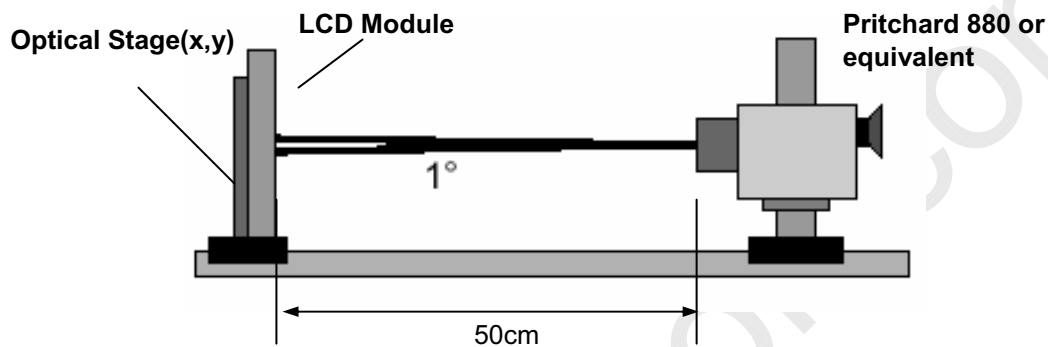

FIG. 10 Optical Characteristic Measurement Equipment and Method
FIG. 10 shows additional information concerning the measurement equipment and method.
2. Surface luminance is determined after the unit has been 'ON' and 1Hour after lighting the backlight in a dark environment at $25 \pm 2^\circ\text{C}$. Surface luminance is the luminance value at center 1-point across the LCD surface 50cm from the surface with all pixels displaying white. For more information see the FIG. 10.